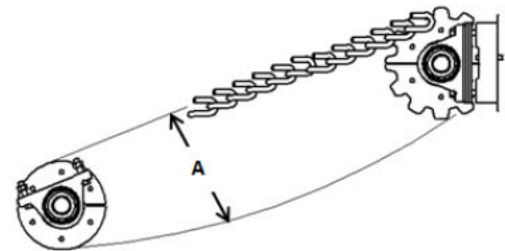

Figure 7-20: Distance between Top and Bottom Chains
NOTE: Distance (A), shown in Figure 7-20, between top and bottom chain should be kept at 10-12 inches (27.9 – 30.5 cm), measured from the centerline of chains.